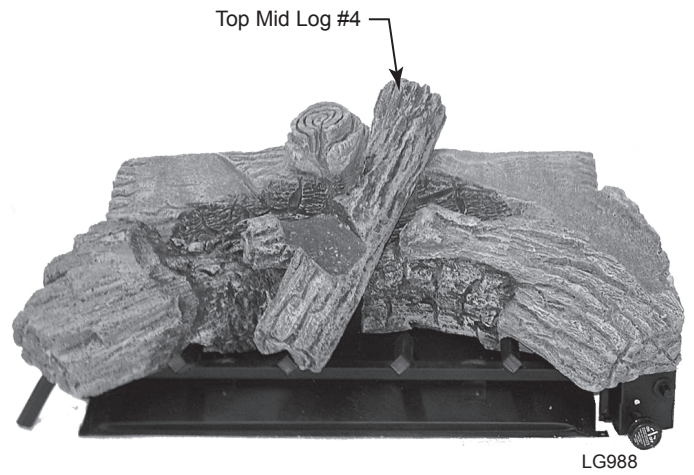

Figure 27
4. Place back end top middle log #4 on log #1. Press the side of log #4 up against raised area of log #1. Align notch in front end of #4 with grate bar. *Figure 27*